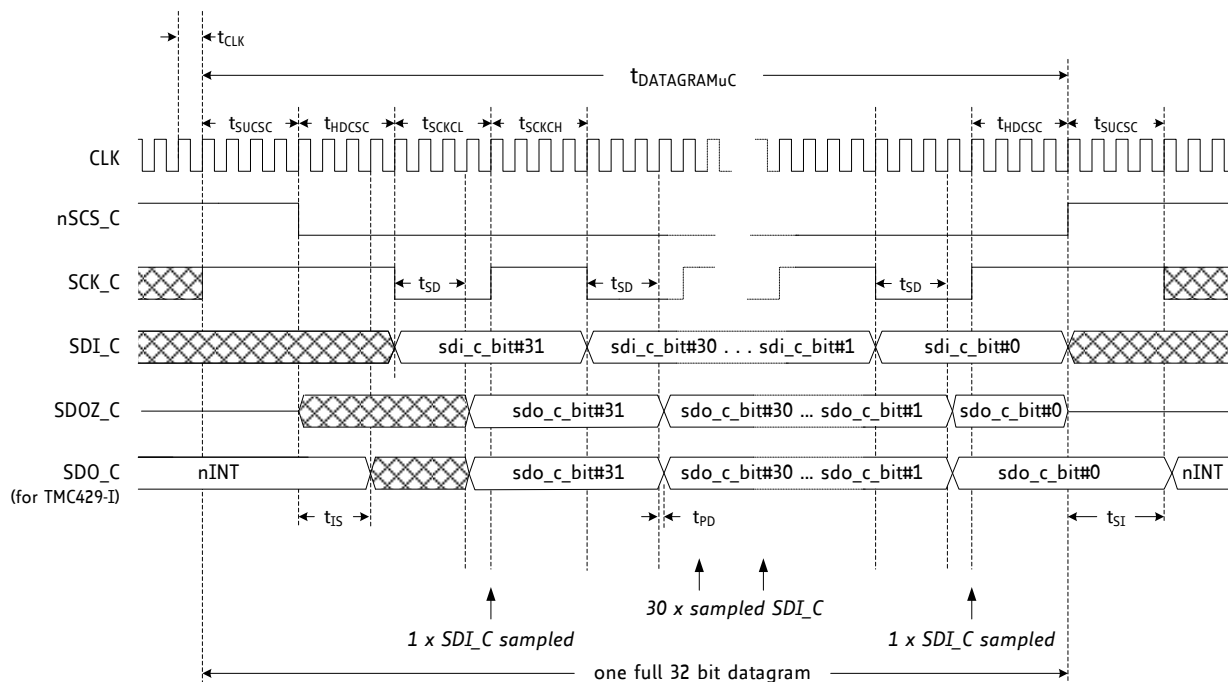

Figure 5.1 Timing diagram of the serial μ C interface
The first bit sent is the *most significant bit (MSB)* sdi_c_bit#31. The last bit sent is the *least significant bit (LSB)* sdi_c_bit#0 (see Figure 5.1). During the reception of a datagram, the TMC4210 immediately sends back a datagram of the same length to the microcontroller. This return datagram consists of requested read data in the lower 24 datagram bits and status bits in the higher 8 datagram bits. A read request is distinguished from a write request by the read/not write datagram bit (RW).